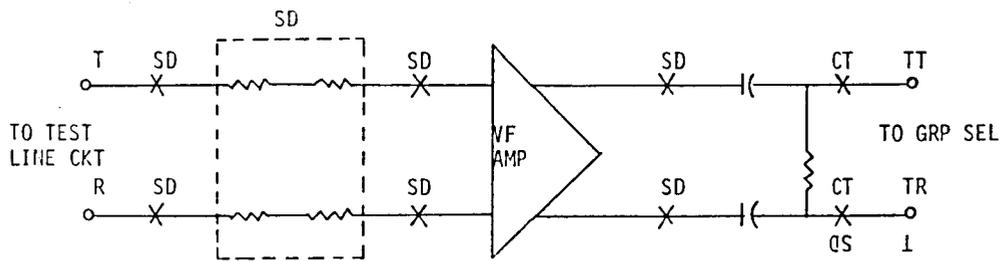

FIG. 3 LINE CONTROL CKT TRANSMISSION SENDING - CT AND SD RELAYS OPERATED
7.351 If E lead pulsing with Figure 3 of SD-98132-01 is provided connect the ring of STO jack to terminal 26 (E lead) of TS on incoming E and F lead signaling unit associated with Incoming Selector used for test. Connect (BG-LP) T to terminal 25 (H1 lead) of signaling unit.